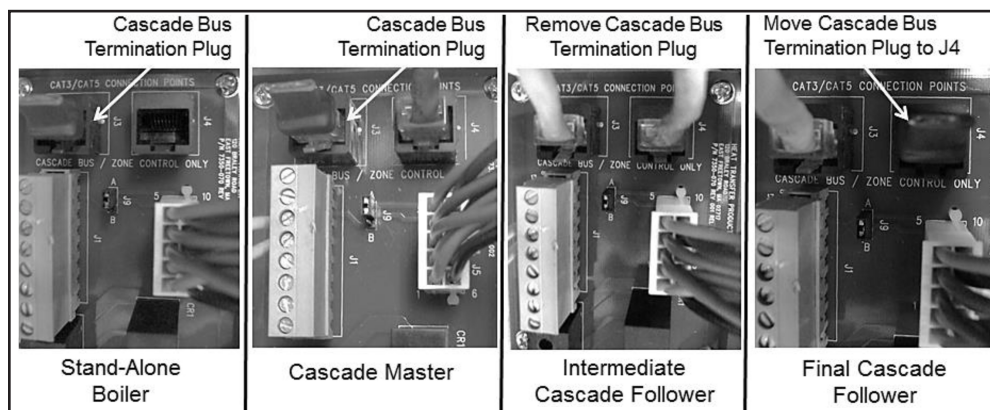

Figure 25 - Cascade Termination Plug Detail
1. A Cascade Bus Termination Plug has been installed on the customer connection board of this boiler. The purpose of this plug is to stabilize communication between multiple boilers and reduce electrical "noise". See Figures 25 and 26 for Cascade Bus Termination Plug installation detail.
NOTE: It is important that the termination plug in multiple boilers (cascaded units) be installed as depicted in Figure 25. Leave the plug installed in the J3 port on the Master boiler. Remove the plug on intermediate Follower boilers. Move the plug to the J4 port on the final Follower boiler.